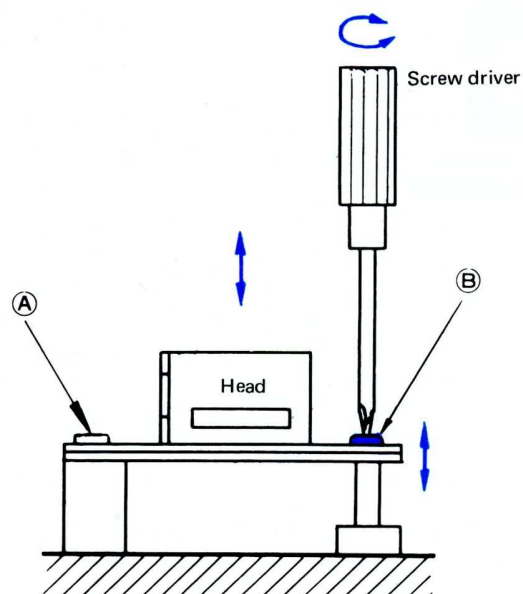

Fig. 59
1. When you replace the recording head if its vertical position is not correctly set, the high frequency output will be reduced. To adjust the head properly, turn the screw (B) in Fig. 59 clockwise or counter-clockwise with a screw driver to adjust the vertical angle of the head (azimuth adjustment).